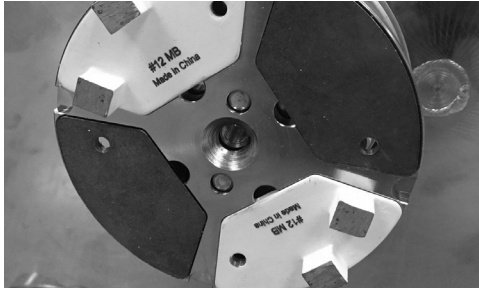

FIG. 8
3. Place the individual tooling segments into two or four of the magnetic pockets. Be careful around pinch points, as the tooling segments will snap into place as the magnetic connection is made (Figure 8).